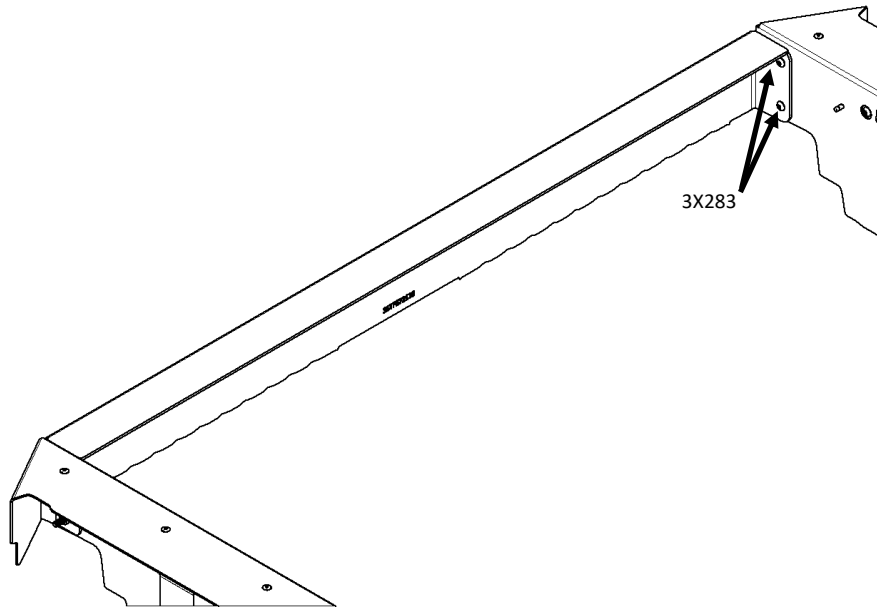

Figure 5
1. Locate the Rear Panel Weldment [3STF572130] and (4) [3X283] 1/4-20x1 Button Head Socket Cap Screws.
2. Mount Rear Panel Weldment to Driver Side Panel Assy with 1/4" hex drive as shown in Figure 5. Repeat for attaching to Passenger Side Panel Assy.